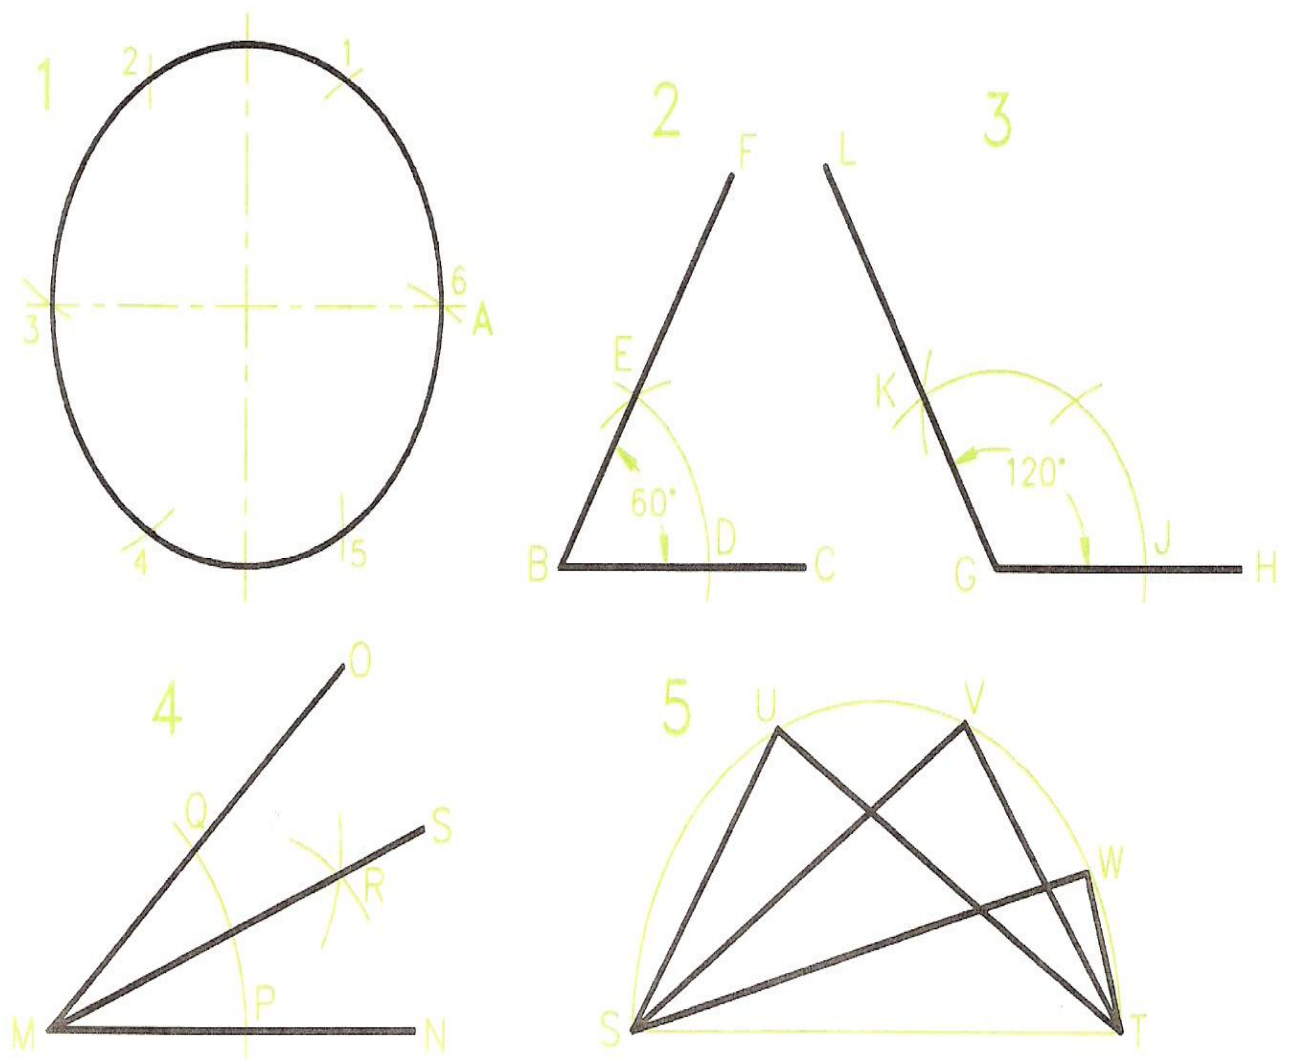

Figure 9 - Circle and Angles
1. Drawing 1 of Figure 9. Set a compass to 40 mm and draw a circle. Add its centre lines, passing through the centre' of the circle as shown.
1. Drawing 2 - Figure 9. Draw a line BC 50 mm long.
1. Drawing 4 - Figure 9. Draw any angle.